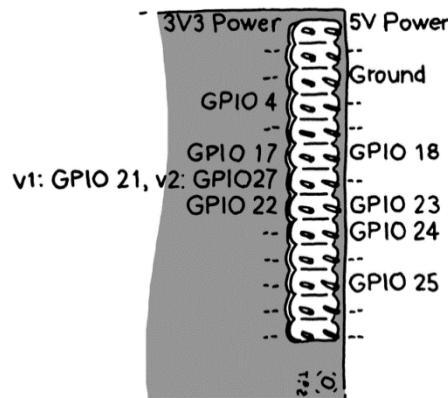

Figure Q4[b]
- [b] Figure Q4[b] shows the GPIO pins on a Raspberry Pi microcontroller. A solenoid valve that controls a pneumatic cylinder is connected to pin 23 of the microcontroller. Two switches are connected to pin 4 and 17 of the microcontroller. Draw the electrical circuit showing the connections.